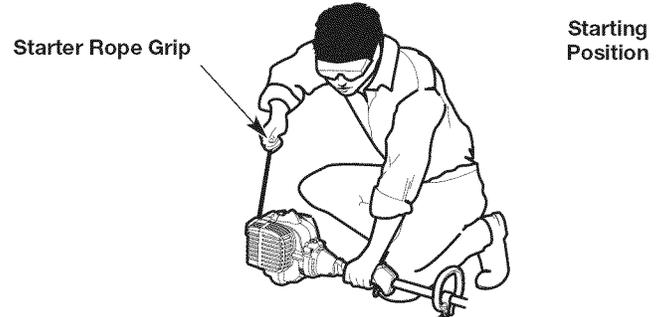

Fig. 11
**WARNING:** Avoid accidentally starting the unit. To avoid serious injury, the operator and the unit must be in a stable position when pulling the starter rope (Fig. 11).
5. **DO NOT** squeeze the throttle control. Crouch in the starting position (Fig. 11).
6. **DO NOT** squeeze the throttle control. Pull the starter rope with a controlled and steady motion until the unit starts (Fig. 11).